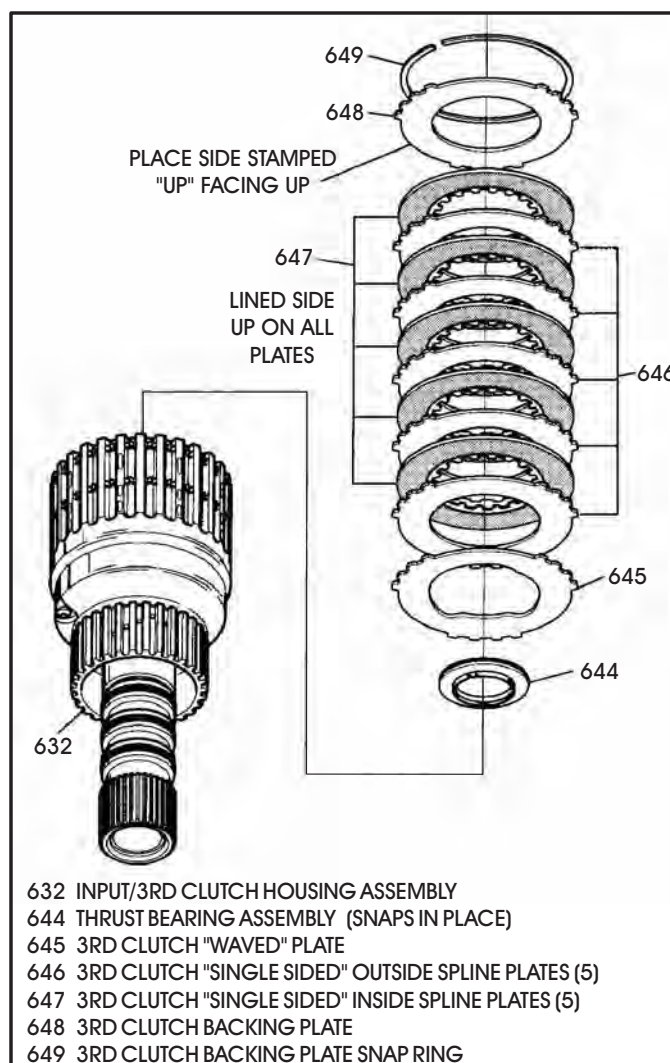

Figure 122
21. Install the thrust bearing (644) into input/3rd clutch housing, as shown in Figure 122. This thrust bearing "Snaps" into place, so ensure it is fully seated.
22. Install the 3rd clutch "Waved" plate into the housing, as shown in Figure 122.
23. Install the "single sided" 3rd clutch plates into housing, beginning with an "outside spline" plate first, & alternating with an "inside spline" plate, until you have installed five of each, as shown in Figure 122.
24. Install the 3rd clutch backing plate, as shown in Figure 122, with stamping "UP" facing up.
25. Install the 3rd clutch backing plate snap ring, as shown in Figure 122. This snap ring is the "Thinner" of the two backing plate snap rings.